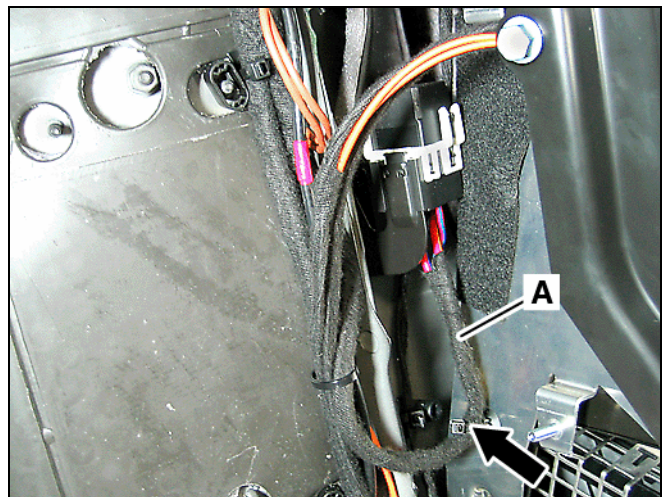

Figure 9
- Secure fuel pump relay harness (A, Figure 9) to SDAR bracket with riveted cable tie (arrow).